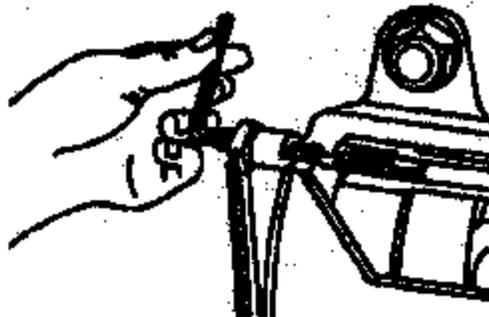

Figure 24
12. With steering wheel held at full turn, loosen the jam nut and hold it in place with a wrench. Turn the adjusting screw in (clockwise) using finger-pressure only - don't use a ratchet - until the Allen wrench comes to a stop. **Do not attempt to turn it in further.** Stop the turn-in process each time the driver releases the steering wheel; continue turning only while the steering wheel is being held at a full turn. Back off the adjusting screw 3-1/4 turns and tighten sealing nut to **33-37 Lbf-Ft (45-50 Nm) (Figure 24)**.